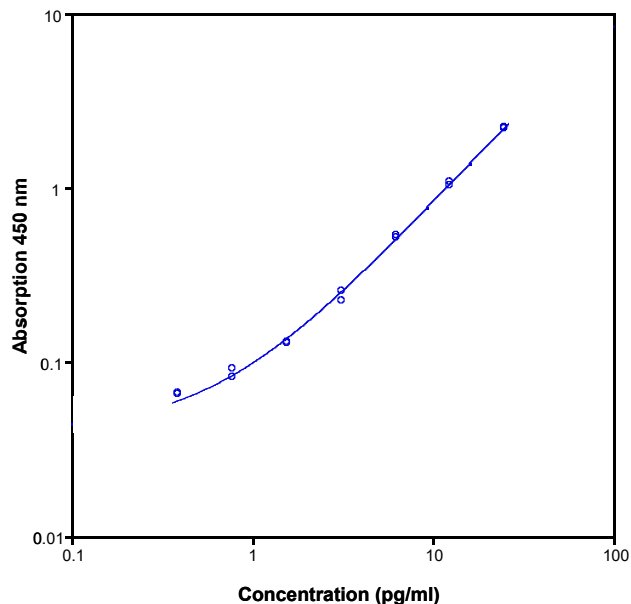

Fig. 10 Representative standard curve for human IL-10 ELISA. Human IL-10 was diluted in serial 2-fold steps in Sample Diluent.
- A representative standard curve is shown in Figure 10.